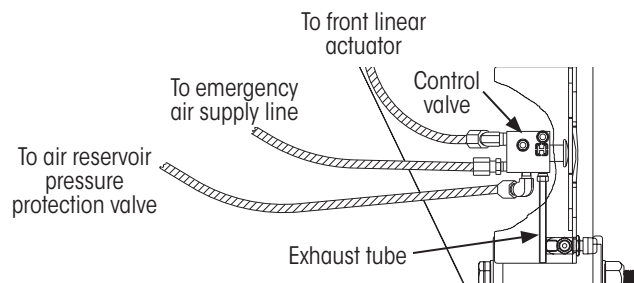
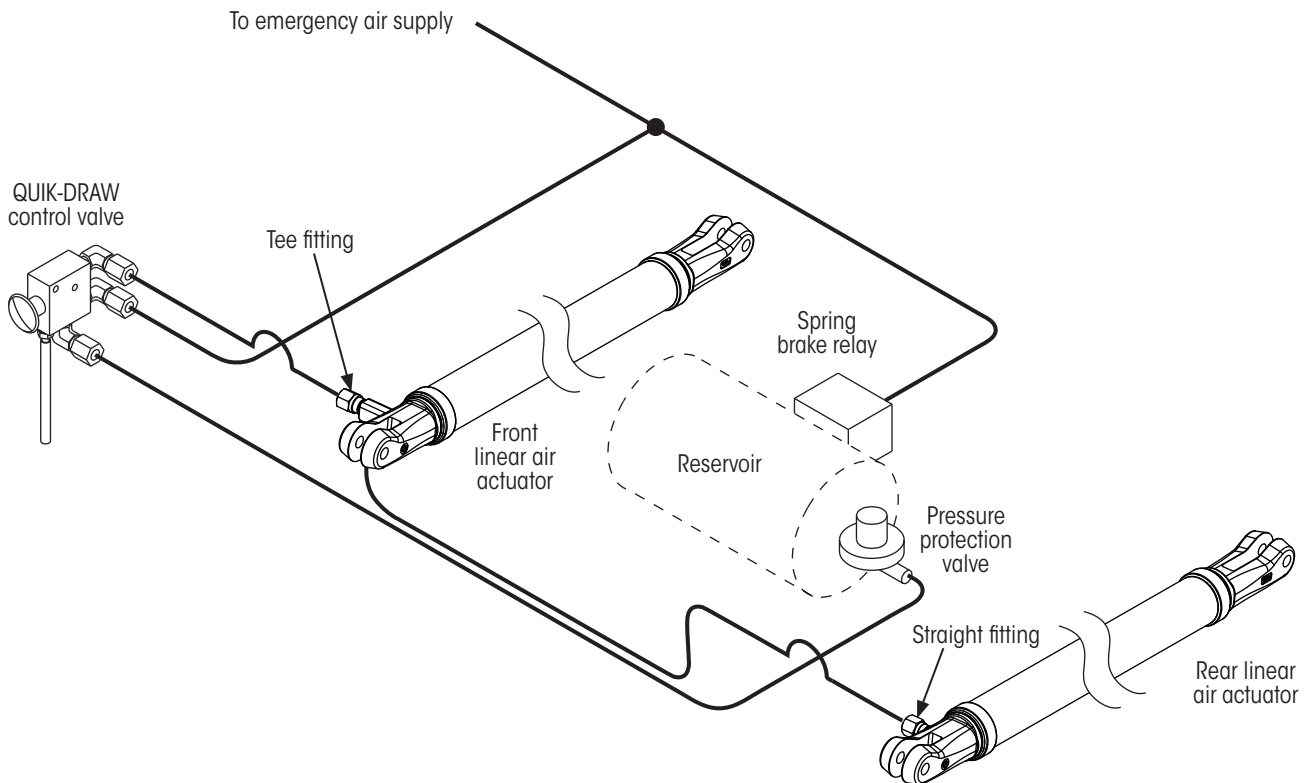
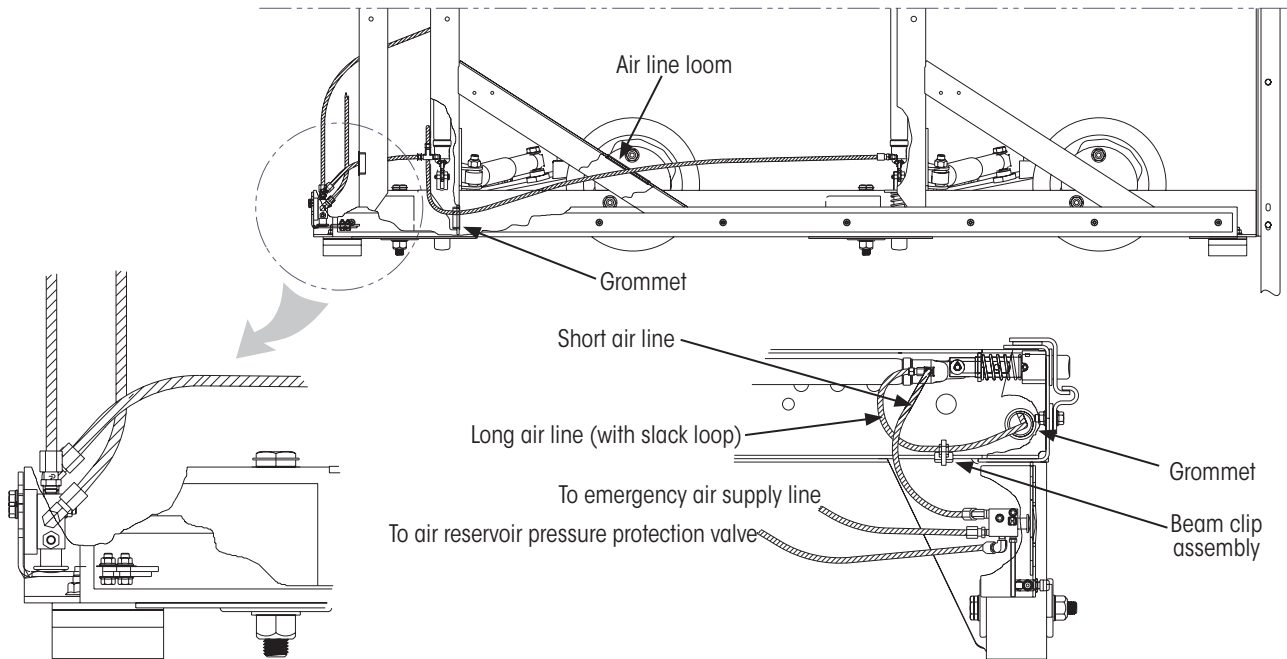
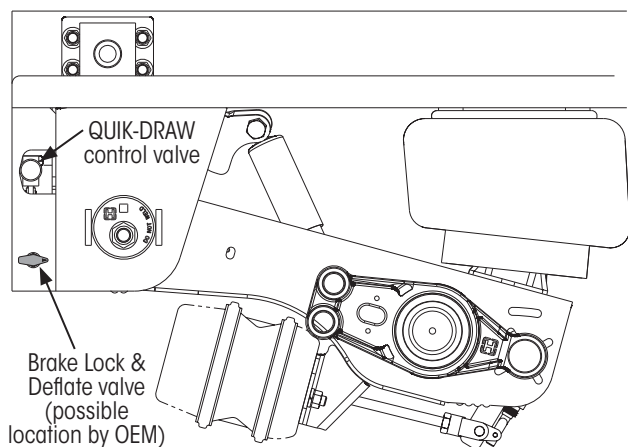

Figure 8: QUIK-DRAW valve air line connections
Figure 14: QUIK-DRAW plumbing diagram for van applications (HK™ Series and VANTRAAX® models)
Figure 15: Air line installation details for van applications (HK™ Series and VANTRAAX® models)
Figure 16: QUIK-DRAW control valve location
2. The plumbing diagram, Figure 14 on page 10, shows the actuator fittings located on the same side of the slider box as the QUIK-DRAW® control valve. **Position** the actuator, with fitting, as shown in the figure.
1. **Mark**, label or otherwise identify air lines (Figure 8, Figure 15 on page 10 or Figure 16) with corresponding fittings on QUIK-DRAW control valve before disconnecting.
6. **Connect** air supply lines to control valve fittings as shown in Figure 8.
2. **Check** for proper actuator orientation (Figure 14, rear actuator has a straight fitting, front actuator has a tee fitting).
3. **Install** air lines (Figure 14), beam clip assembly, air line looms and grommets as shown in Figure 15.
5. Pull the QUIK-DRAW control valve knob (Figure 16) out to its fully extended position. This pneumatically retracts the locking pins.
6. Turn the Brake Lock & Deflate valve (Figure 16, included with kit AKSS0001) to the DUMP position.
4. **Pull** the QUIK-DRAW control valve knob (Figure 16) out to its fully extended position. This pneumatically retracts the locking pins.